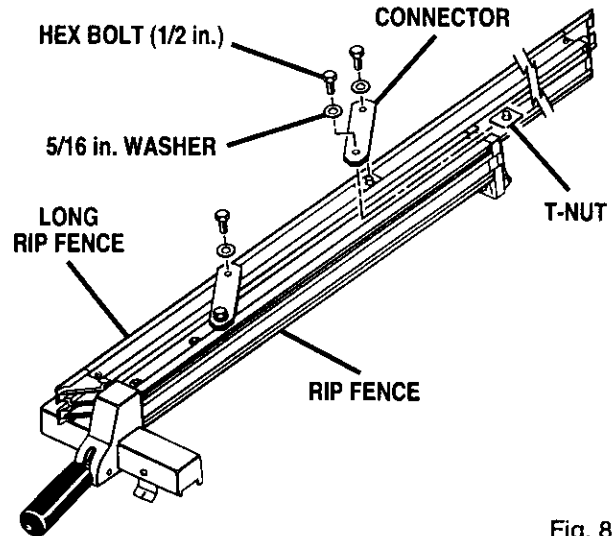

Fig. 8
- Slide two of the special 5/16 in. t-nuts into the top channel of your saw's rip fence. T-nuts will be used to secure the connectors. The t-nuts must be placed in the channel from the rear of the saw. See Figure 8.
- Attach the long rip fence to the existing rip fence on the saw with two connectors. See Figure 8.